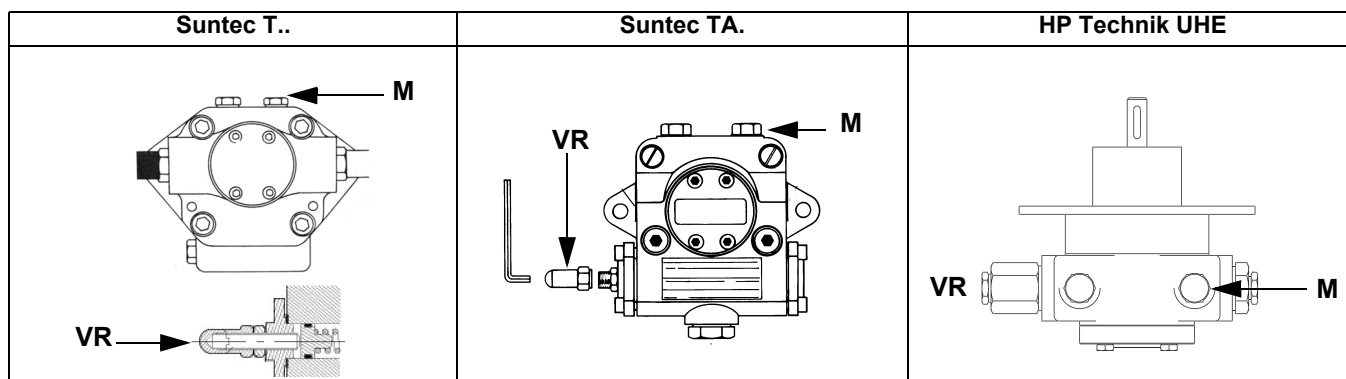

Fig. 10
ATTENTION: To set the outlet pressure of the VD-R regulator, act on the adjustment ring nut (Fig. 10)
- 3 bleed the air from the **M** pressure gauge port (Fig. 10) by loosening the cap without removing it, then release the contactor.
- 5 Only if necessary, adjust the supply pressure as follows (see related paragraph); insert a pressure gauge into the port shown on Fig. 11 and act on the pump adjusting screw **VR** (see Fig. 10) as to get the nozzle pressure at 20bar (Monarch or Fluidics nozzles - see page 41-38).